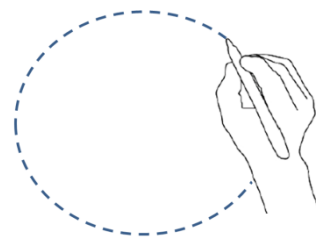

Fig. 1 – Marking the 240mm diameter hole cut-out
6. Mark and cut out a **240mm diameter** hole into the ceiling. (Fig 1)